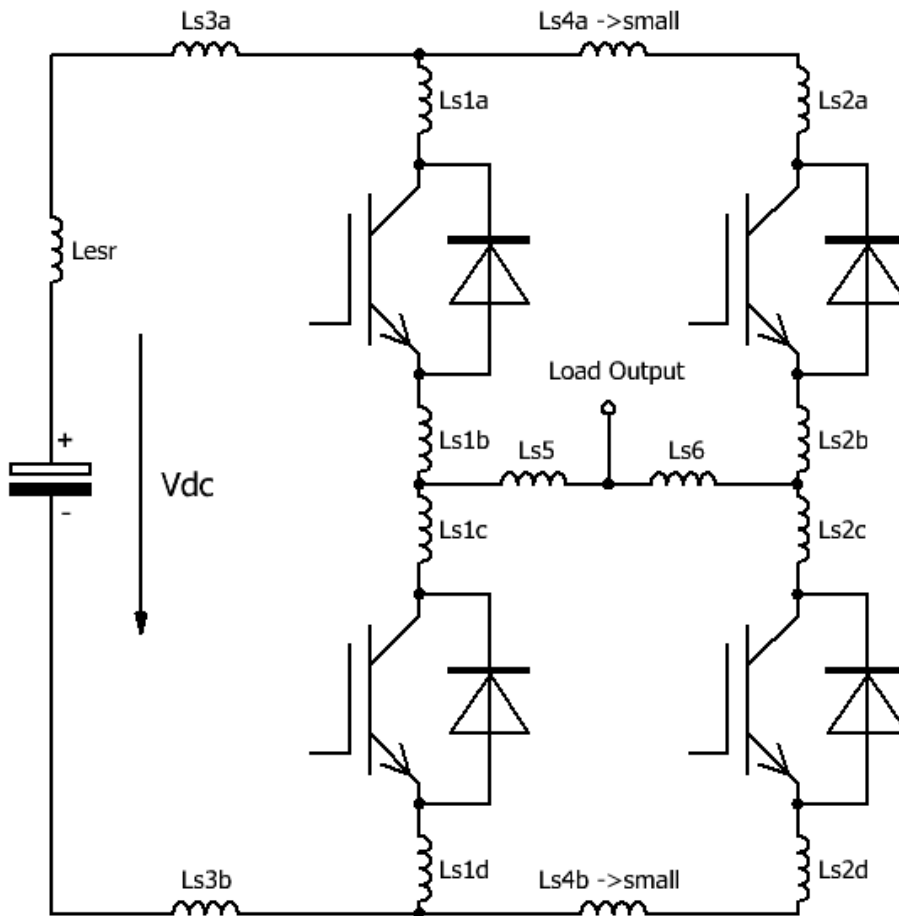

Fig. 20 Half-bridge topology with stray inductances
- The converter should be constructed as symmetrically as possible with respect to the paralleled IGBT modules in order to ensure symmetrical operation. The DC-link stray inductance of each paralleled IGBT module in particular should be similar ( $L_{s1} \approx L_{s2}$ ,  $L_{s5} \approx L_{s6}$  in Fig. 20).